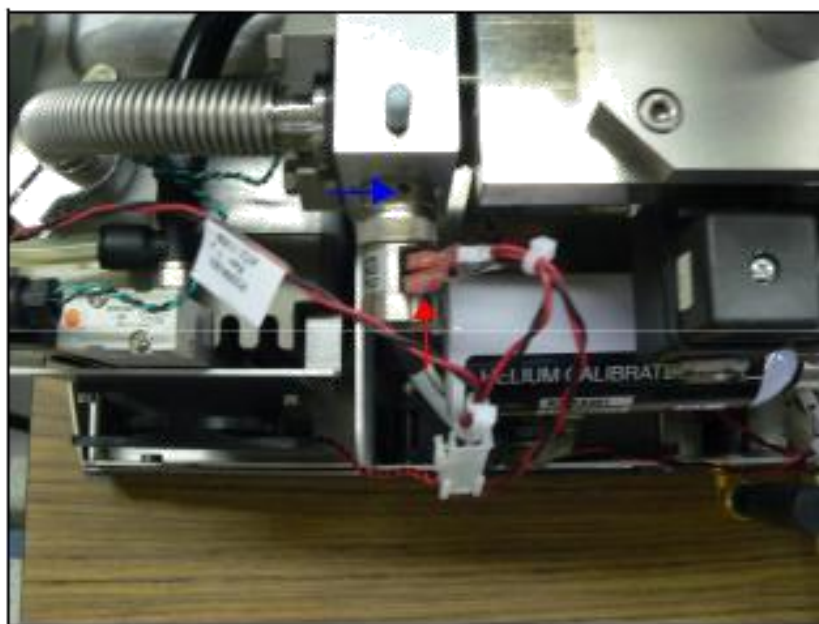

Figure 8: Spade Connectors
4. Disconnect the two spade connectors (red arrow in Figure 8: Spade Connectors):
4. Use an Allen wrench to loosen valve from housing (blue arrow in Figure 8: Spade Connectors).